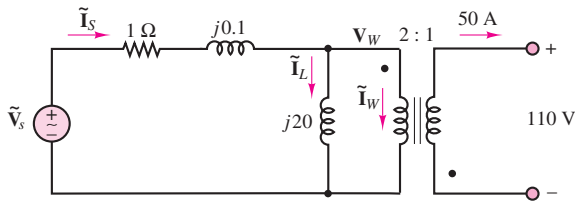

Figure P7.39
- 7.39** If we knew that the transformer shown in Figure P7.39 were to deliver 50 A at 110 V rms with a certain resistive load, what would the power transfer efficiency between source and load be?